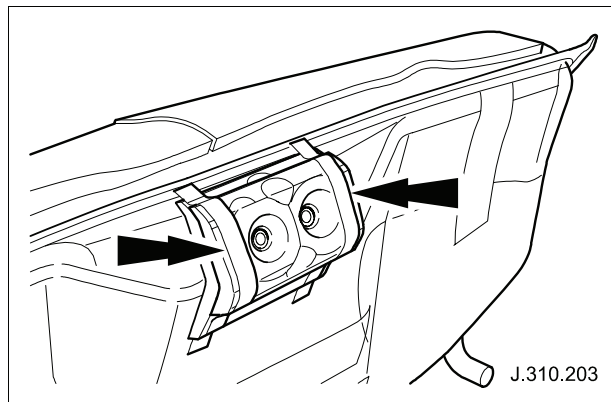

Fig. 5
- 17 Using suitable adhesive tape, secure both seals at each end (see Fig. 5).